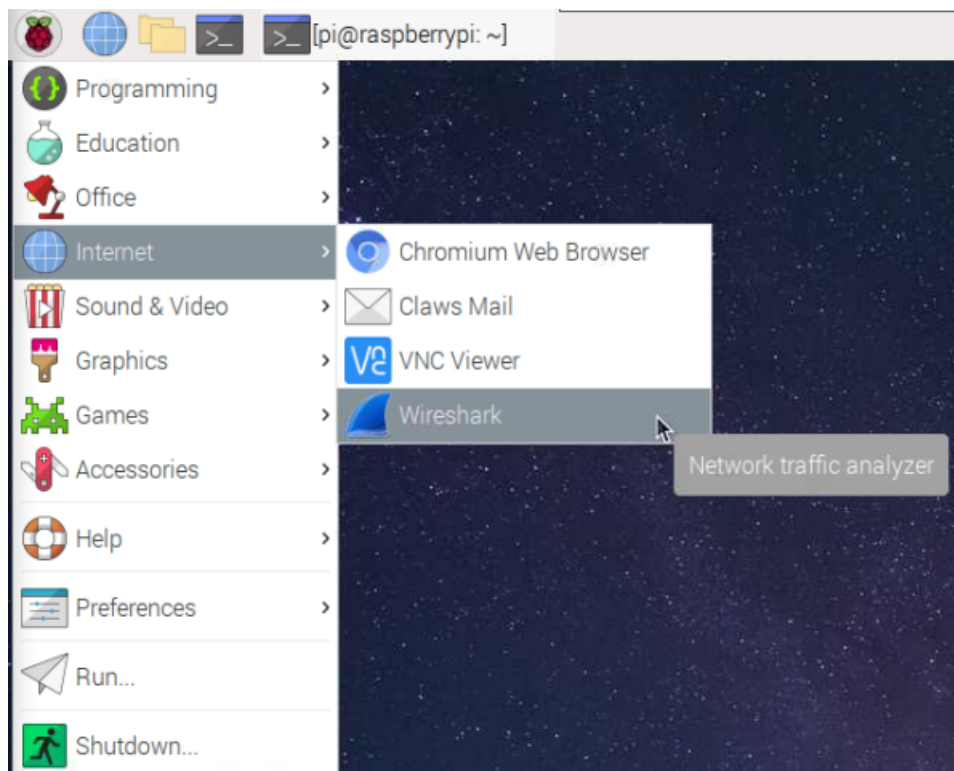

Figure 7.3: Running Wireshark
- After the installation is finished, you may run the Wireshark from the Internet section as you see in Fig. 7.3.